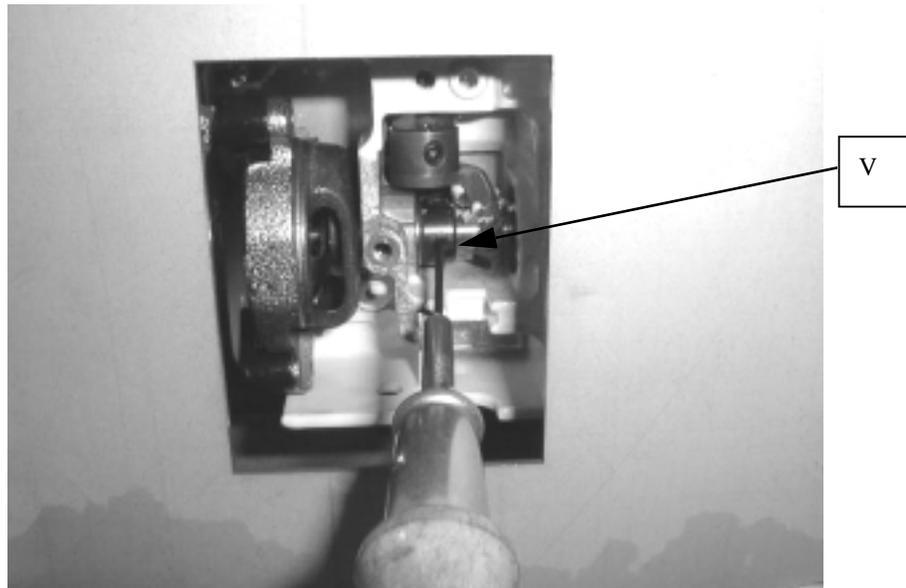

FIGURE 2-16
- If a thrust play exists in the hook shaft, loosen two socket screws(V) of the hook shaft ring, and tighten the hook shaft by the hook shaft ring while holding the hook driver by hand so as to eliminate the thrust play as shown in Fig.2-16.